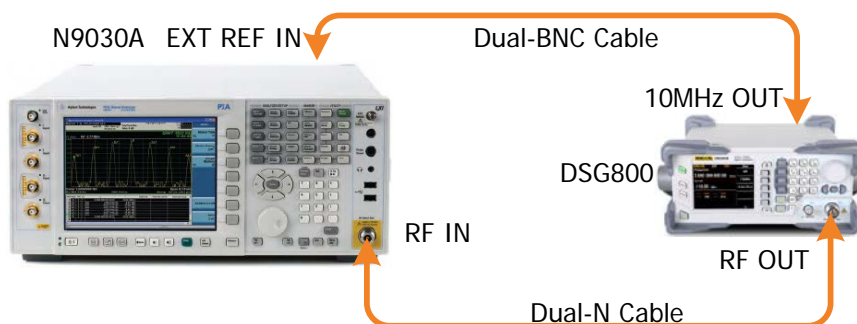

Figure 2-4 AM Test Connection Diagram
1. Synchronize DSG800 and the signal analyzer. Connect the RF output terminal of DSG800 with the RF input terminal of the signal analyzer as shown in Figure 2-4.